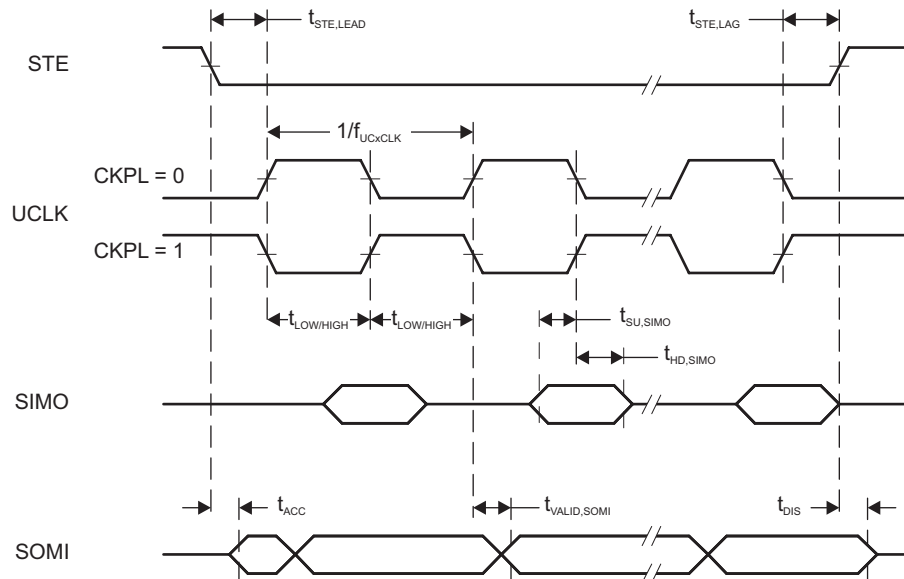

Figure 5-25. SPI Slave Mode, CKPH = 0
over recommended ranges of supply voltage and operating free-air temperature (unless otherwise noted)(1) (see Figure 5-25 and Figure 5-26)
- (1) fUCXCLK = 1/2tLO/HI with tLO/HI ≥ max(tVALID,MO(Master) + tSU,SI(USCI), tSU,MI(Master) + tVALID,SO(USCI)). For the master parameters tSU,MI(Master) and tVALID,MO(Master), see the SPI parameters of the attached slave.
- (2) Specifies the time to drive the next valid data to the SOMI output after the output changing UCLK clock edge. See the timing diagrams in Figure 5-25 and Figure 5-26.
- (3) Specifies how long data on the SOMI output is valid after the output changing UCLK clock edge. See the timing diagrams in Figure 5-25 and Figure 5-26.